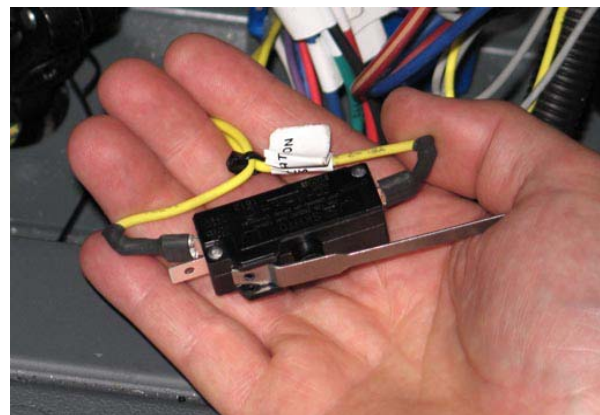
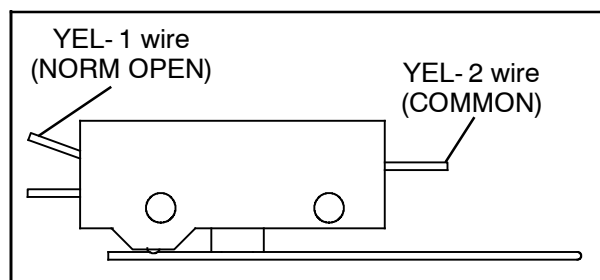

FIG. 6
FIG. 7
13. **Calibration:** Connect power steering wire harness YEL- 1 wire and YEL- 2 wire located near the controller to the switch (4). (Fig. 6 / Fig. 7 / Fig. 8)
20. **Calibration:** Disconnect the power steering wire harness YEL- 1 wire and YEL- 2 wire from the snap switch (4). (Fig. 6 / Fig. 7 / Fig. 8)